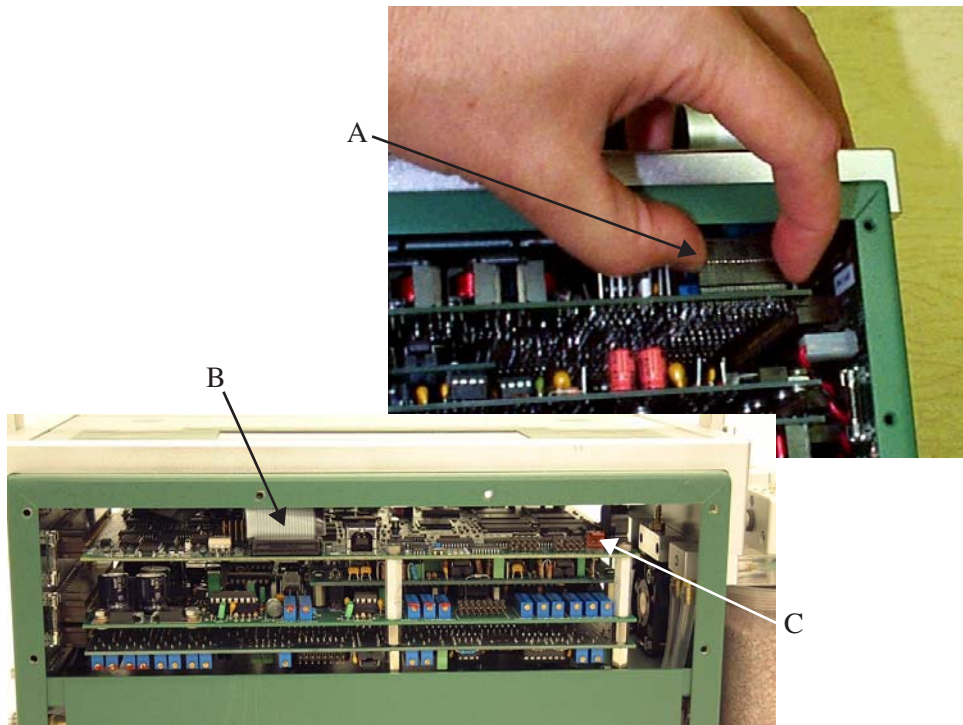

Figure 19-10. The keyboard (A), display (B), and backlight (C) connectors.
Unplug the keyboard connector by carefully lifting it up from the pins on which it sits (A in Figure 19-10). Then, unplug the display connector on the other side of the console (B). Finally, if there is one, unplug the back light connector (C).